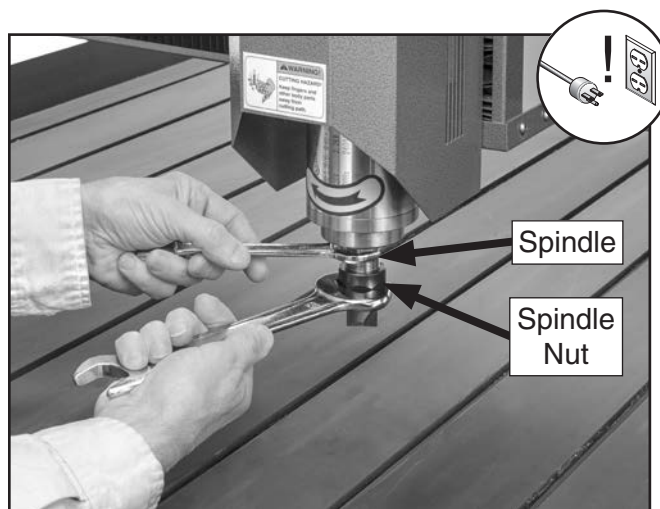

Figure 21. Changing cutter.
3. Secure spindle with 21mm open-end wrench (see **Figure 21**).
5. Remove spindle nut with 30mm open-end wrench (see **Figure 21**), then remove collet and cutter.